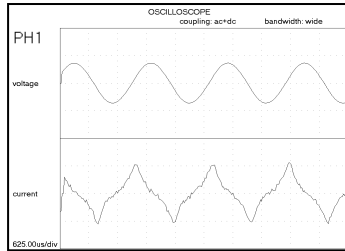
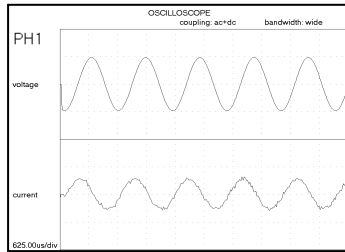

Fig 1 (Distorted current waveform)
Fig 2 (Correct current waveform)
*Note: The amplifier contains an output rms current protection circuit, and when driving some capacitive loads this circuit may be activated. Due to capacitor construction, at high current the amount of energy transfer distorts the current waveform resulting in excessive peak current (Fig 1 below), whilst the rms value remains within specification. To ensure correct functionality and prevent false triggering of the protection circuit, ideally the current waveform should be a sinewave as pictured in (Fig.2 below).*